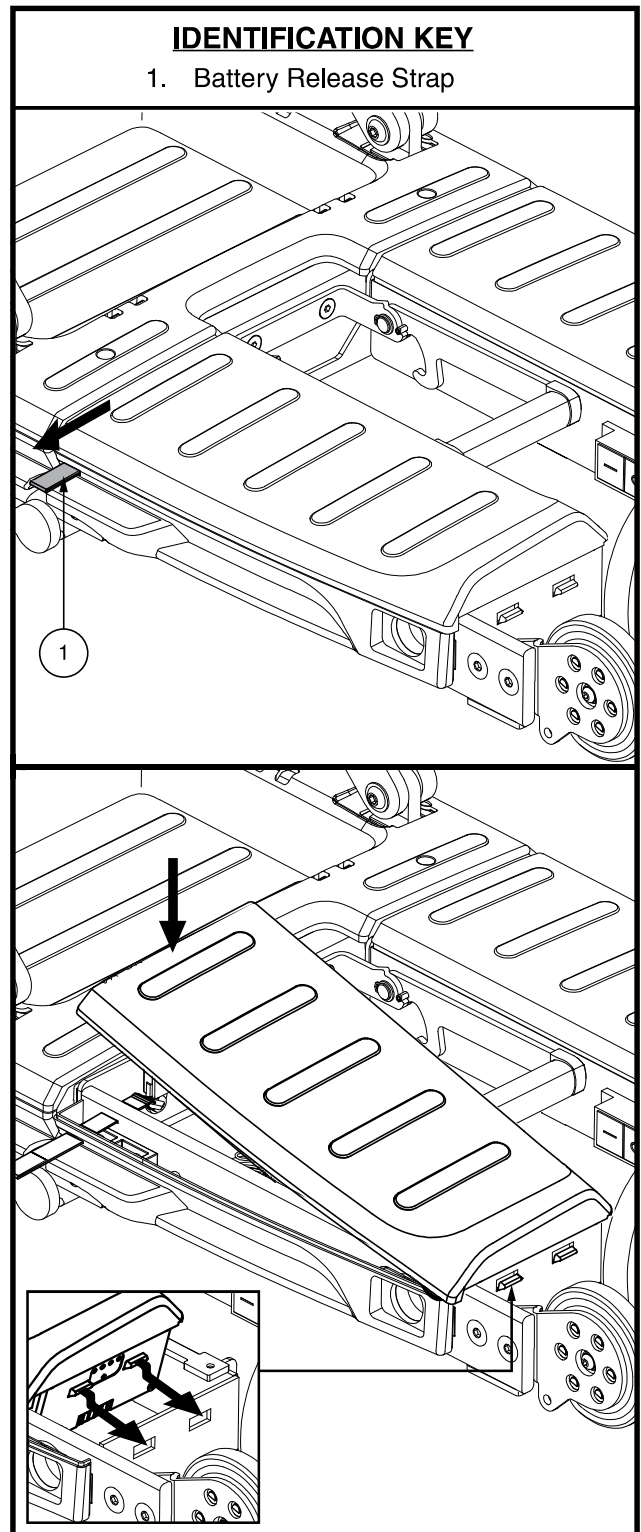

Figure 10. Battery Removal/Installation
To remove/install the battery pack, see figure 10:
5. Align the tabs on the new battery with the alignment holes. See figure 10.
2. Install the battery if necessary. See figure 10.